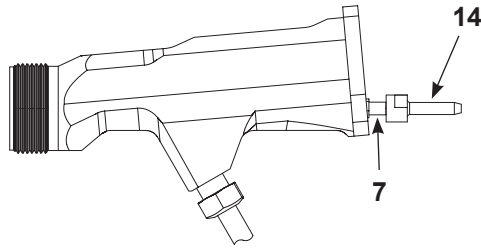

Figure 7-5 Packing Cartridge Replacement – Removing Trigger Puller
1. See Figure 7-5. Hold the pull shaft (7) with pliers while unscrewing the trigger puller (14).
4. Coat the pull shaft, except for the threaded end, with a liberal amount of dielectric grease, then install the sleeve (8) over the pull shaft and up against the packing cartridge.
7. Coat the inside diameter of the packing cartridge retainer (9) and the end of the pull shaft (8) with MagnaLube-G or equivalent lubricant.
10. See Figure 7-5. Apply a removable threadlocking adhesive (Loctite 242 or equivalent) to the threads of the pull shaft and screw the trigger puller (14) onto the pull shaft